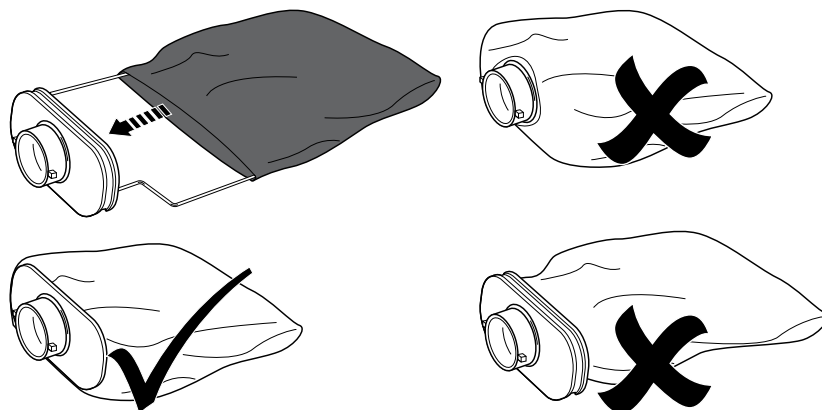

Fig. 11
- > Re-fit the dust bag(8a) to the connector(8c), ensuring that the elasticated collar is correctly located (Fig.11) and re-attach it to the product.